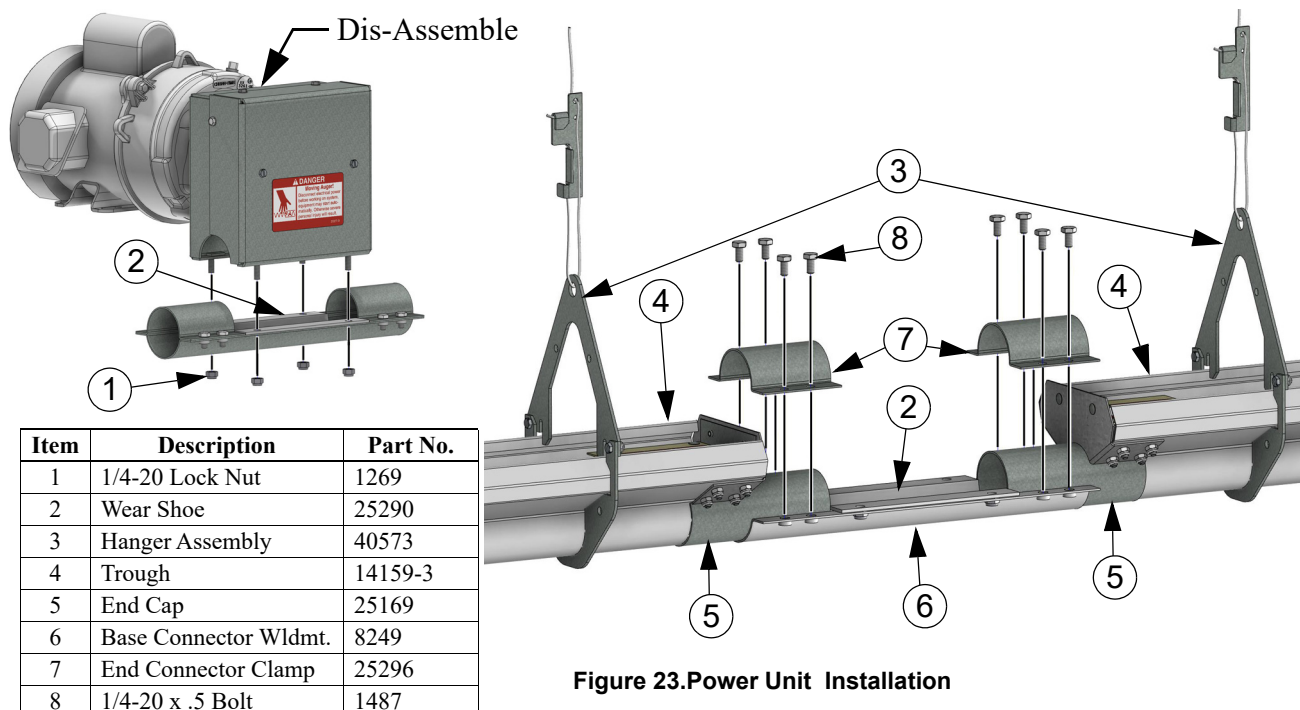

Figure 23. Power Unit Installation
2. The Power Unit, Driver Assembly, and Base Connector are shipped assembled. Disassemble the Base Connector from the Power Unit and Driver Assembly by removing the four 1/4-20 locknuts. (**See Figure 23.**) Leave the Wear Shoe (**Item 2**) in place.